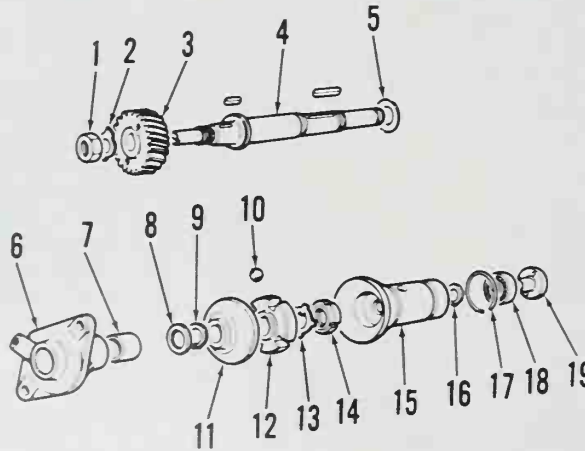

Fig. L3-24-Exploded view of governor and throttle linkage.
Refer to Figs. L3-23 and L3-24 for exploded views of flyball type governor and control linkage. Governor sleeve (15—Fig. L3-23) slides on governor shaft (4) according to flyball (10) movement, and forces spindle (19) to contact governor arm (27—Fig. L3-24). The control rack pin of the fuel injection pump engages the fork in governor arm (27). Throttle lever (47) operates through
To synchronize governor linkage with fuel injection pump, remove cover (45-Fig. L3-24) and loosen nuts (N-Fig. L3-25) securing eccentric (39). Fully rotate eccentric in counter-clockwise direction. With fuel injection pump removed, install tool (T) number 7276-2003-04 on Model 832 or number 7277-2003-05 on Model 833 so tool roller (R) engages fork on governor arm (27). Rotate eccentric (39) until all play is removed from governor but tool roller (R) is still free in fork. Tighten nuts (N), remove tool and install fuel injection pump.
Start spring (25-Fig. L3-24) allows maximum fuel delivery when starting engine. Spring free length should be 42 mm.
Torque control screw (C-Fig. L3-24) allows additional fuel usage under high torque load. The torque control screw has a spring loaded tip which contacts lever (41). Torque control screw must match governed speed of engine. Check operation by measuring force needed to move tip the distance specified in the following table: